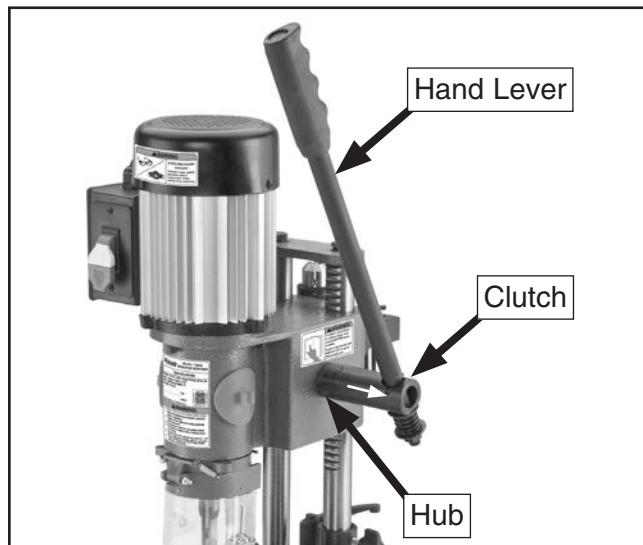

Figure 25. Location of hand lever components.
3. When hand lever clutch separates from hub (see **Figure 25**), rotate hand lever to desired position.